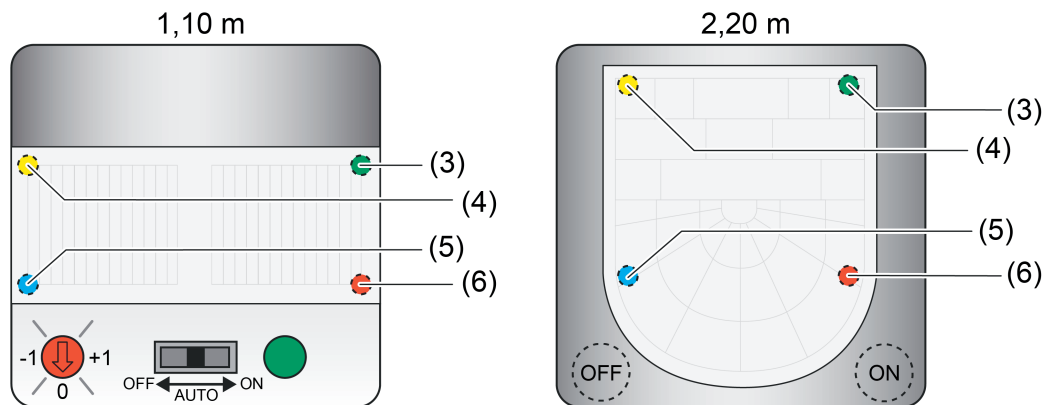

Figure 36: Arrangement of the LEDs to display the operating states
There are 4 LEDs positioned behind the PIR lens, signalling the operating state of the device. If necessary, an active "ON" operating mode can be displayed for the first function block by a green LED (3) and an active "OFF" operating mode by a yellow LED (4) (figure 36). Whether the operating modes are displayed by the LEDs is configured separately for "ON" and "OFF" in the ETS using the "Display of 'ON' operating mode" and "Display of 'OFF' operating mode" on the parameter page "FB1 - Operating mode / Local operation".